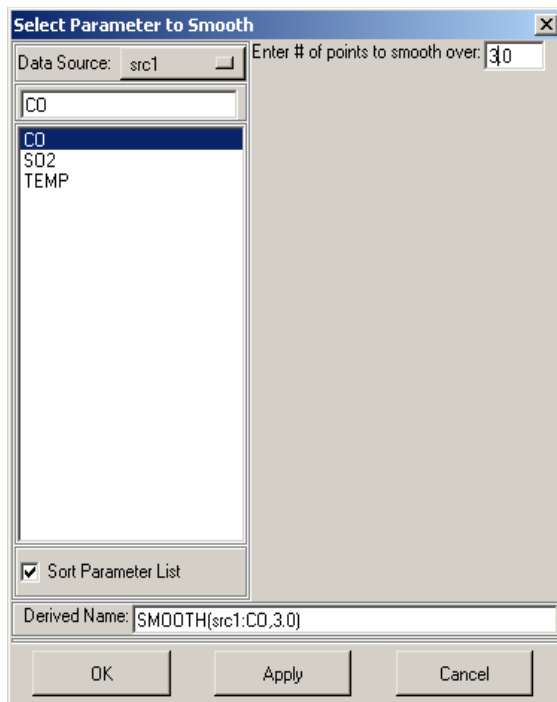

Figure 3-4 Select Parameter Smooth dialog
Step 1 Select **Analyze=>Standard=>Smooth**. The **Select Parameter to Smooth** dialog appears as shown in Figure 3-4.